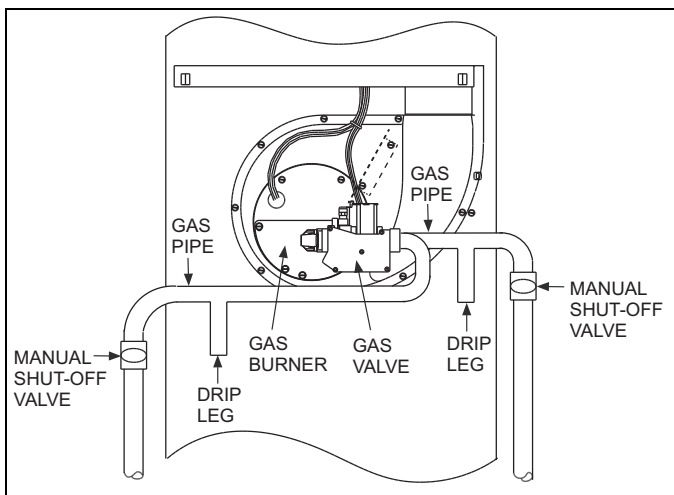

FIGURE 14: Gas Piping
A drip leg is recommended in the gas supply line to trap moisture and contaminations. Refer to Figure 14.
Gas piping may be connected from either side of the furnace using any of the gas pipe entry knockouts on both sides of the furnace. Refer to Figure 14 Gas Piping.
1. Shut off gas supply at valve upstream from furnace or at meter as required. Refer to Figure 14.